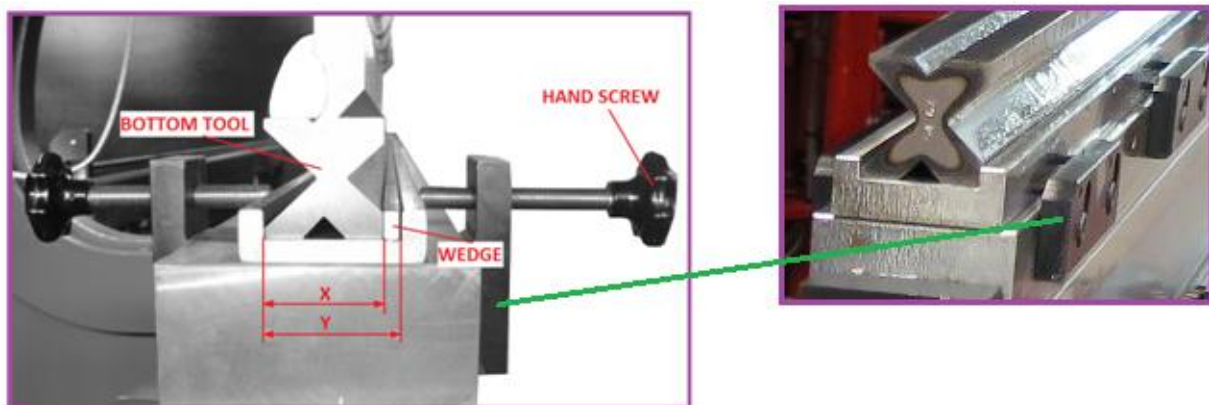

Figure-31: Changing the bottom tool1.1.b.
2. If there is, Pull out the wedge (See Figure-31) from any side.
1. Loosen up the hand screws (lower tool adjustment unit bolt and wedge ) in both sides of the machine (See Figure-31).